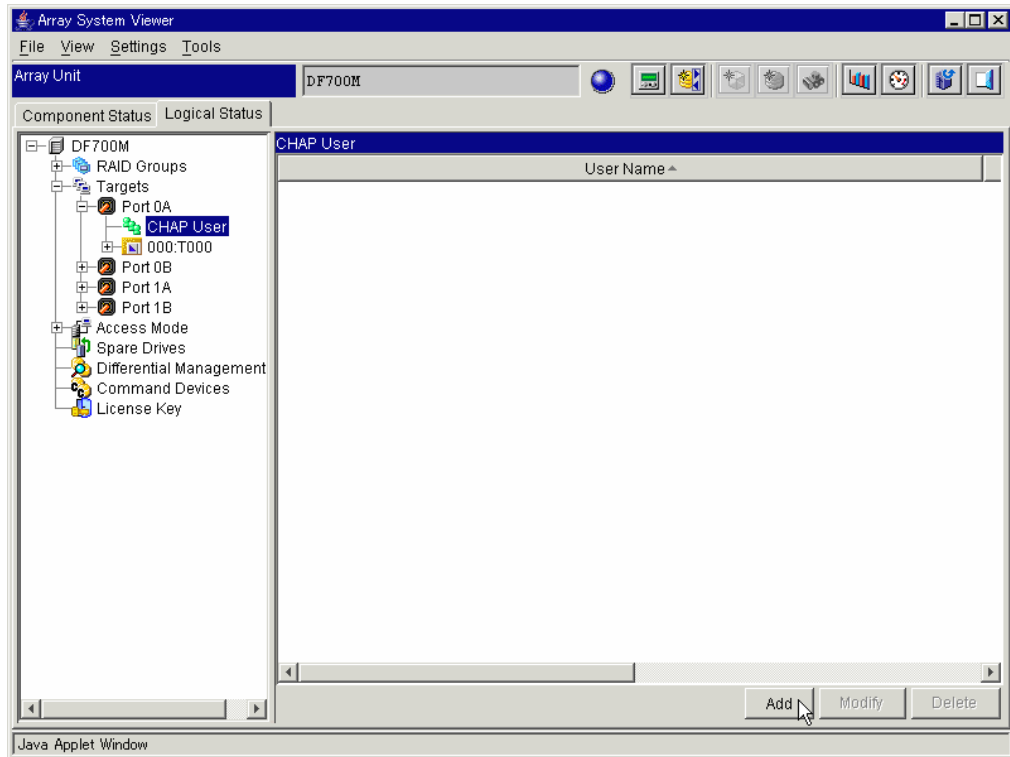

Figure 8.12 Array System Viewer - CHAP User
1. Click the **Logical Status** tab. See Figure 8.12.